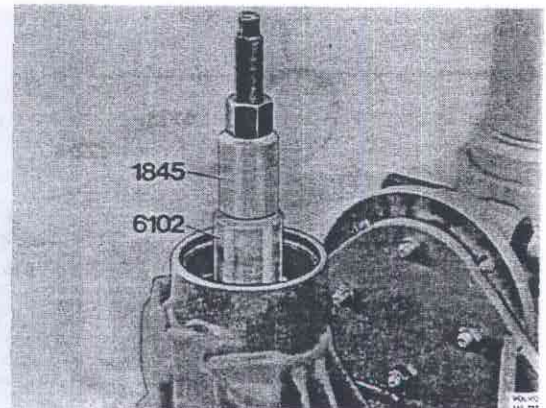

Fig. 46-67. Pressing on the bearing
10. Turn the carrier. Place the pinion in the housing. Place the front bearing, sleeve 6102 and press tool 1845 on the pinion, Fig. 46-67. Pull in the bearing.